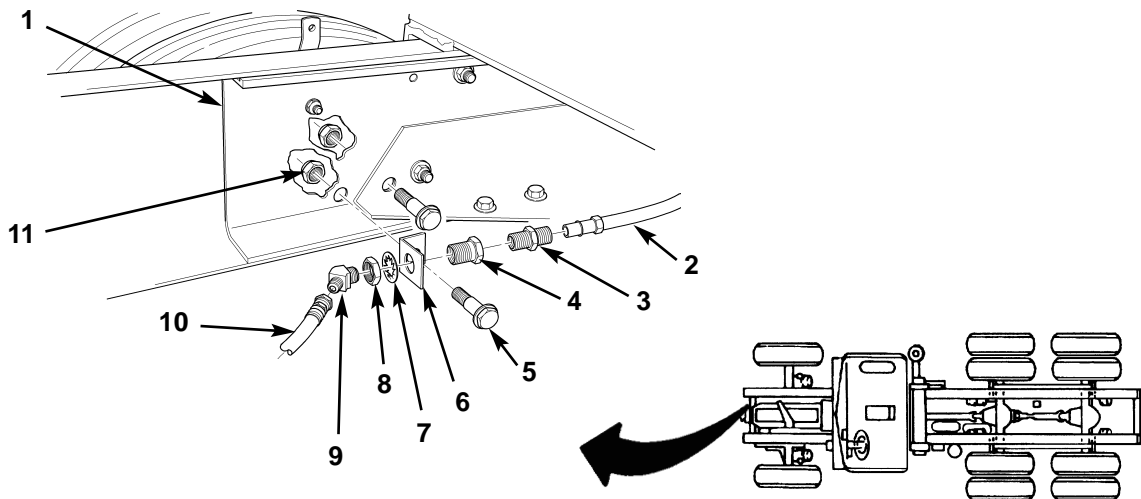

Figure 9. Installing Right-Front Air Block.
1. Install right-front bulkhead fitting mount (figure 9, item 6) on right frame rail and forward leaf spring shackle (figure 9, item 1) with bolt (figure 9, item 5) and new locknut (figure 9, item 11).
2. Install bulkhead fitting (figure 9, item 4) on right-front bulkhead fitting mount (figure 9, item 6) with new lockwasher (figure 9, item 7) and nut (figure 9, item 8).
3. Install adapter (figure 9, item 3) and elbow (figure 9, item 9) on bulkhead fitting (figure 9, item 4).
4. Connect hose assembly (figure 9, item 10) from right spring brake chamber to elbow (figure 9, item 9), and connect tube (figure 9, item 2) to adapter (figure 9, item 3) on right-front bulkhead fitting mount (figure 9, item 6).